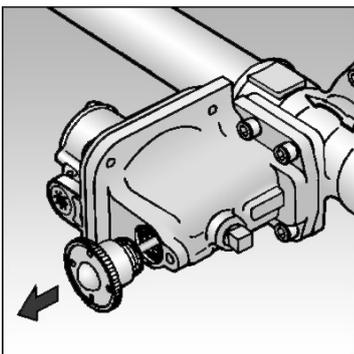

Fig. 3
3. Firmly pull out reset spindle to re-cock OPSS unit and release spindle gently. See Fig. 3.
10. Re-cock OPSS by firmly pulling reset spindle. See Fig. 3. (Hold for approx. 5-10 secs.).
5. Firmly pull out reset spindle to re-cock OPSS unit. Hold for 5 - 10 seconds and release spindle gently. See Fig. 3.